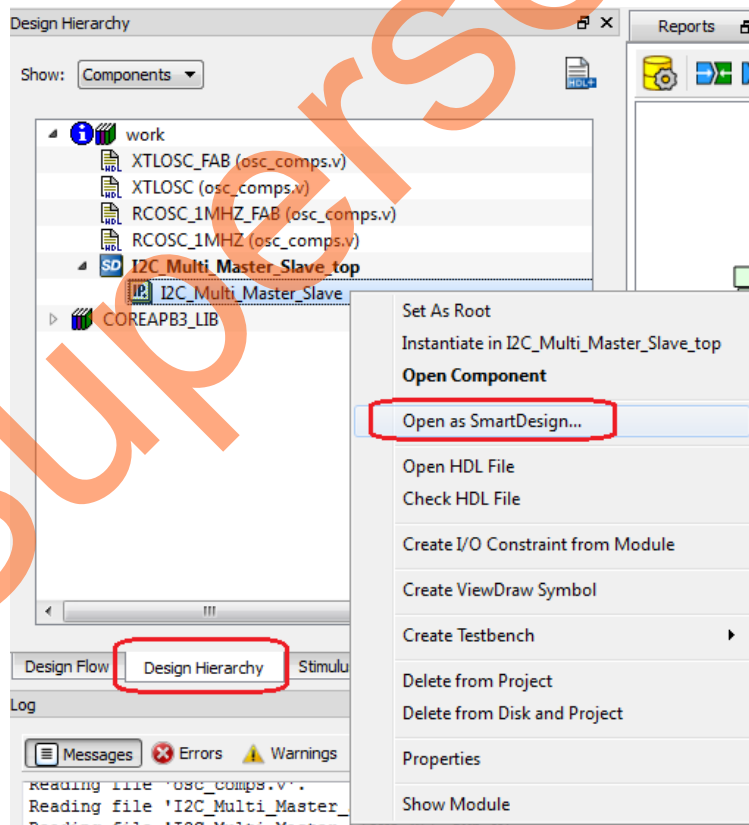

Figure 25 • System Builder Opens as SmartDesign
1. Expand **I2C_Multi_Master_Slave_top** in the **Design Hierarchy** tab as shown in Figure 25. Right-click **I2C_Multi_Master_Slave** and click **Open as SmartDesign**.